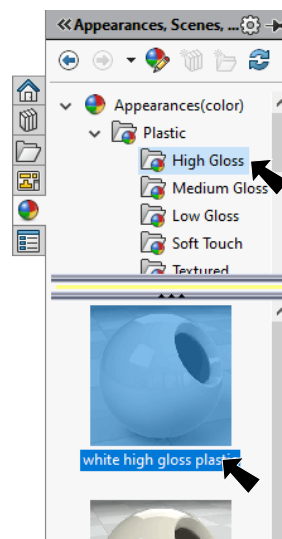

Fig. 25
Step 2. In the Appearances Task pane, expand **Plastic**, click **High Gloss** and in the lower pane select **white high gloss plastic**, **Fig. 25**.